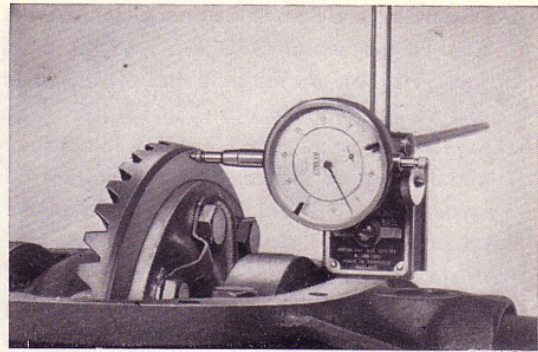

Fig. 28. Measuring the crown wheel run-out.
12. Fit the cap (2) with bolts and tighten the bolts to a torque of 5.5—7 kgm (40—50 lb. ft.). Fit an indicator against the reverse side of the crown wheel, see Fig. 28. Rotate the crown wheel and measure its run-out. This should not exceed  $0.003''$  ( $0.08 \text{ mm}$ ).